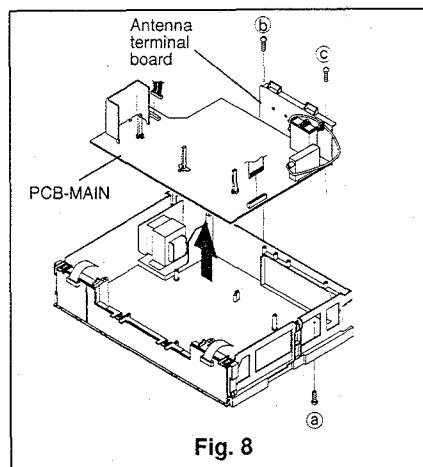

Fig. 8
- ⑤ If necessary to remove PCB-MAIN completely, remove the Assy Deck. (Refer to Para. 5 of the DISASSEMBLY.) Remove all connectors on the PCB-MAIN. Remove one fastening screw (ⓐ) on the bottom and two fastening screws (ⓑ and ⓒ) on the Antenna Terminal Board shown in Fig. 8. Raise the PCB-MAIN upward to remove it.